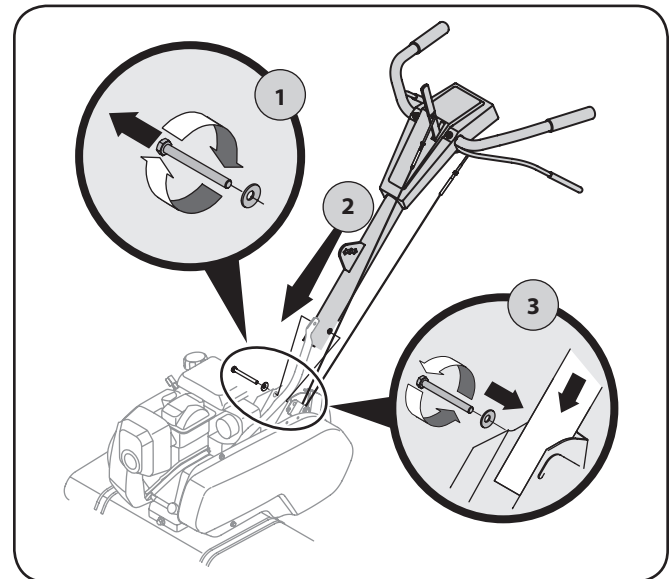

Figure 3-3
4. Remove the hex bolt and cupped washer from the right side of the frame. Hold the cable guide bracket on the left side of the frame as it will fall when the bolt is removed. Step 1 in Figure 3-3.
5. Insert the handle into the tiller frame as shown. Step 2 in Figure 3-3.
6. Insert the bolt through the cupped washer, frame, handle and into the cable guide bracket (note the notch in the cable guide bracket goes over the flange on the frame.) Step 3 in Figure 3-3.